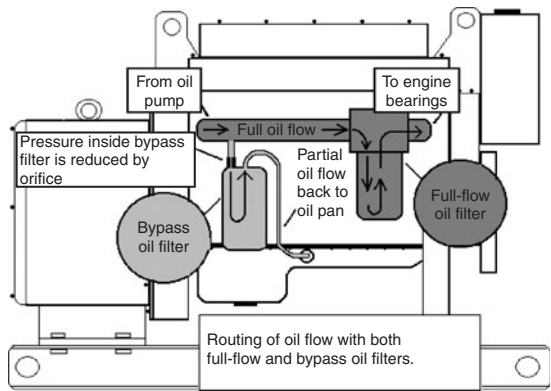

Fig. 5-9. Full-flow and partial-flow oil filters.
The two major types of filters (Fig. 5-9) are (1) full-flow and (2) partial-flow (bypass). The former filters all the oil that comes to it until it reaches its maximum capacity to hold soot, at which point a bypass valve opens and the engine runs with unfiltered oil. Proper oil change intervals prevent this from happening. Filling a new full-flow filter with oil prior to installation is a good move.